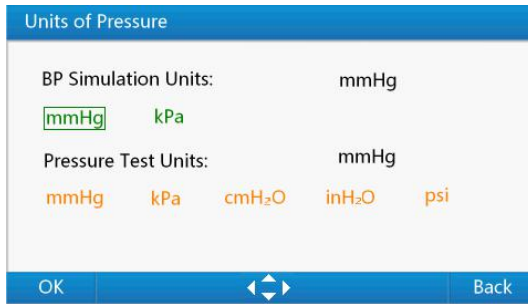

Figure 7 Unit setting interface
1. Use up or down key in "**System Setup Menu**" to select "**Units of Pressure**", then press "**Enter Key**" to the unit setting interface shown as Figure 7, the units displayed with black color are current effective units for BP simulation and pressure test.